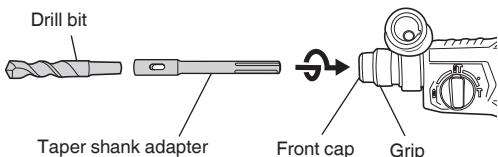

Fig. 15
- Mount the taper shank adapter to the rotary hammer (Fig. 15).
- Mount the drill bit (taper shank) to the taper shank adapter (Fig. 15).